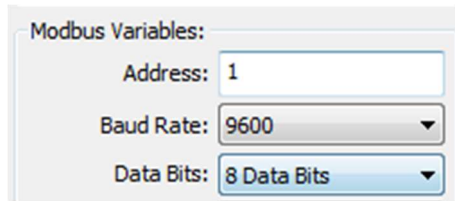

Figure 5.45 Modbus Data Bit Selection
1. Select "Detailed Design"-"Modbus variable"-"> the drop-down box corresponding to" data bit", select the supported data bit number of 7 or 8 bits, as shown in Figure 5.45